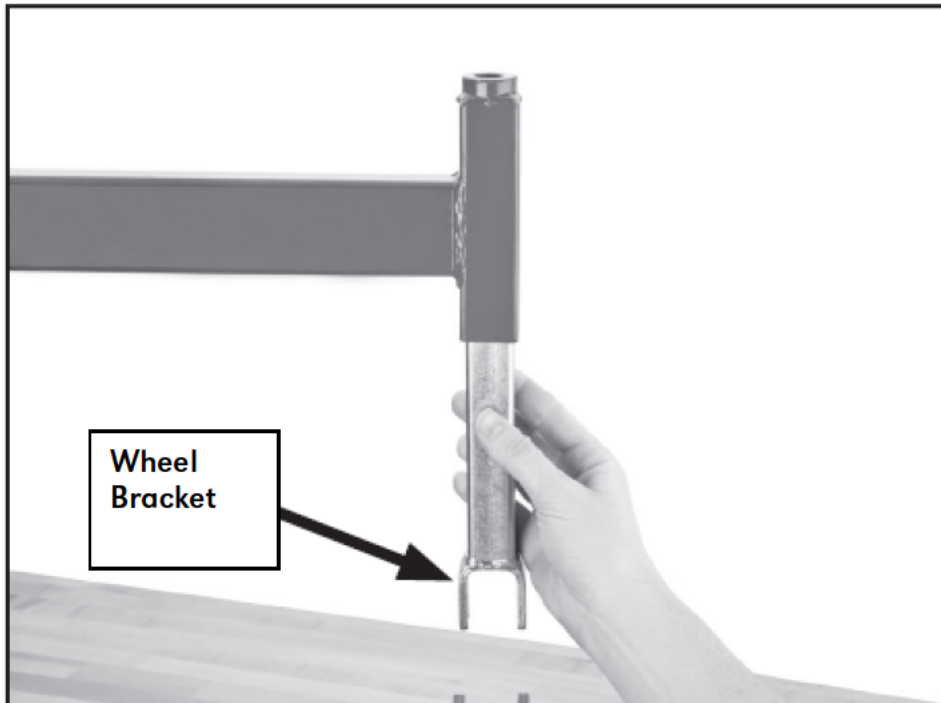

Figure 5. Inserting wheel bracket into frame.
2. Turn the frame upside down and insert the lower wheel bracket into the frame, as shown in Figure 5.